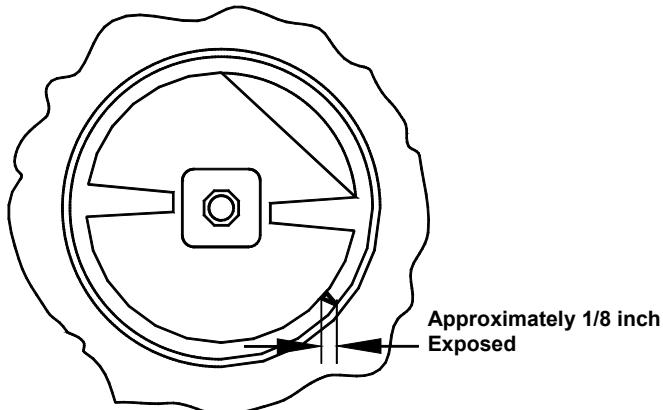

Fig. 23
- f. While maintaining force against the dasher, rotate it slowly until the tongue of the dasher engages the groove in the drive system at the rear of the cylinder. The outer most portion of the dasher should be recessed approximately $1/4"$ (6 mm) to $3/8"$ (10 mm) inside the freezing cylinder. No part of the dasher should extend outside the cylinder. Scraper blades should be visible, extending approximately $1/8"$ (3 mm) beyond the dasher (Fig. 23).